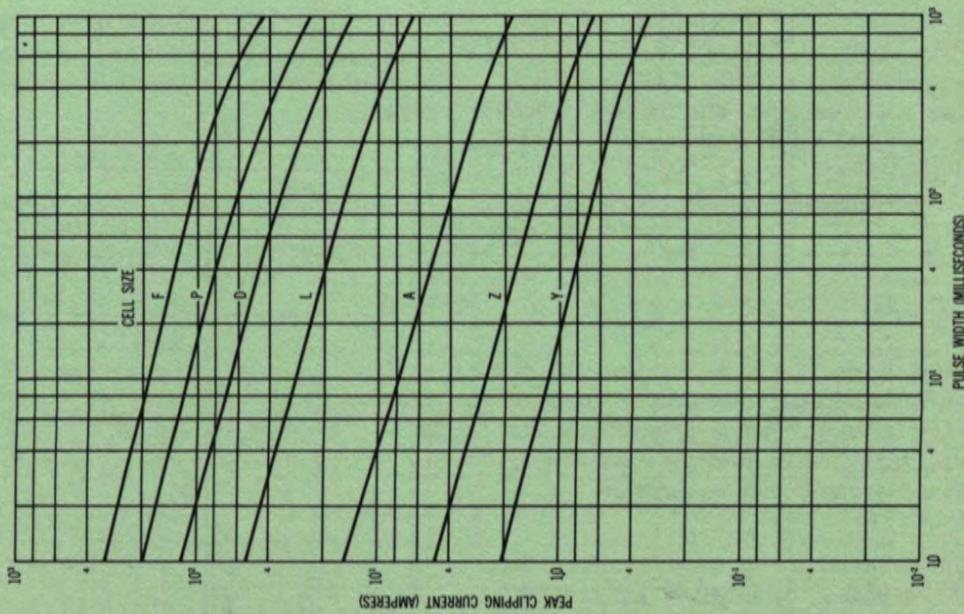

Fig. 10 — Surge Current Vs. Pulse Width
6. Maximum allowable surge current versus pulse width for non-repetitive pulses is given in Figure 10 (page 11). For the shorter times it is possible that the maximum rated clamping voltage will be exceeded. For maximum safety for components that are being protected it is recommended that the rated current not be exceeded.